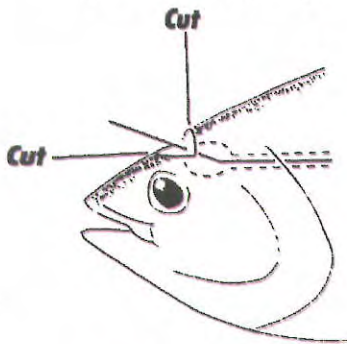

Figure 5. Cut a wedge over the soft spot to expose the brain, and then pass a rod through the brain into the spinal canal.
- Step 3** Insert the rod through the brain and into the spinal canal to destroy the spinal core. (Figure 5.)